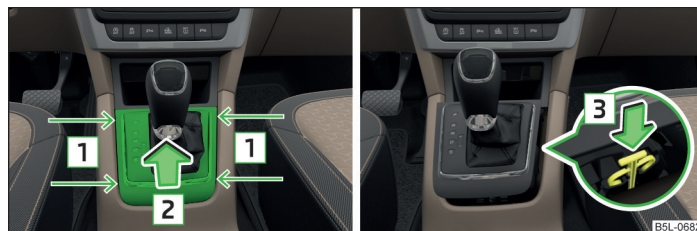

Fig. 189 Selector lever-emergency unlocking
- Insert a flathead screwdriver into the gap in the arrow range **1** » Fig. 189 and lift the cover in arrow direction **2**.